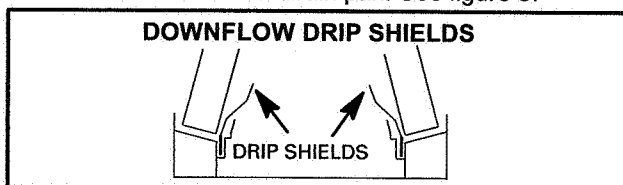

FIGURE 9
- 6 - Install downflow drip shield firmly in place on inside of coil slab from under drain pan. See figure 9.